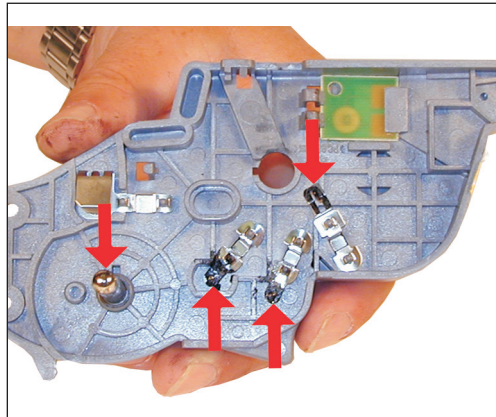

Figure 28
24) Clean off all the old conductive grease from the left end cap. Reapply new grease to all the contact points including a small amount on the drum axle shaft. Remember, when using conductive grease, more is not better. Just use a small amount on each point. See Figure 28